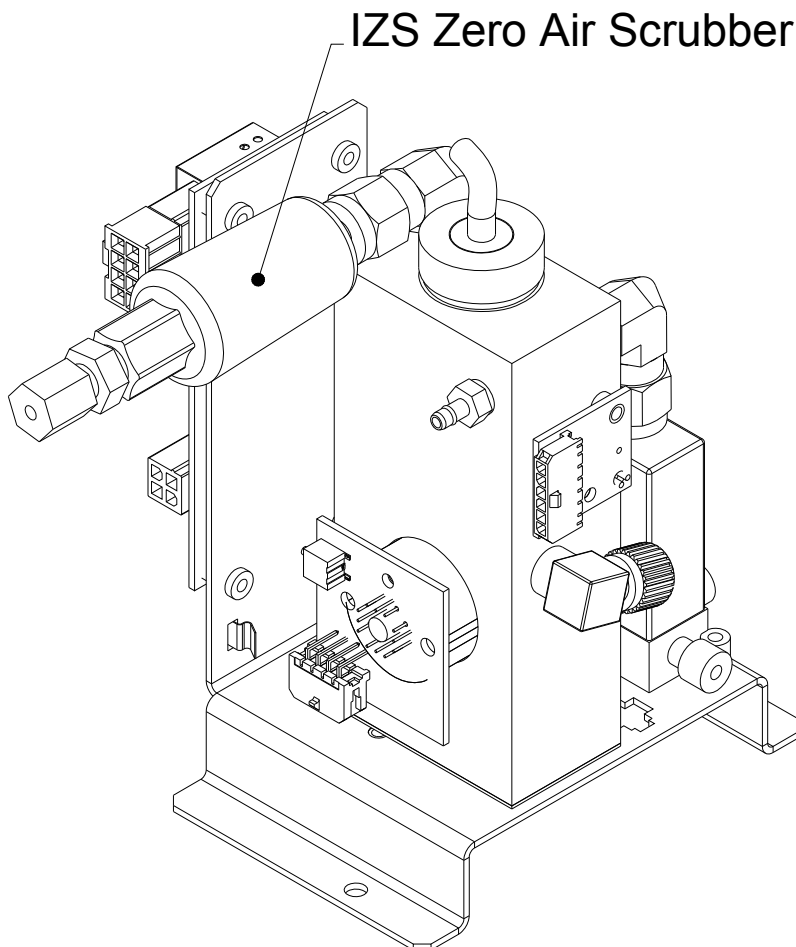

Figure 12-2 Replacing the IZS Zero Air Scrubber
3. Disconnect the white nylon 1/4"-1/8" fitting from the Zero Air Scrubber (See Figure 12-2).